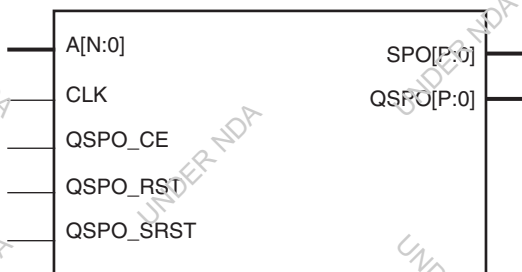
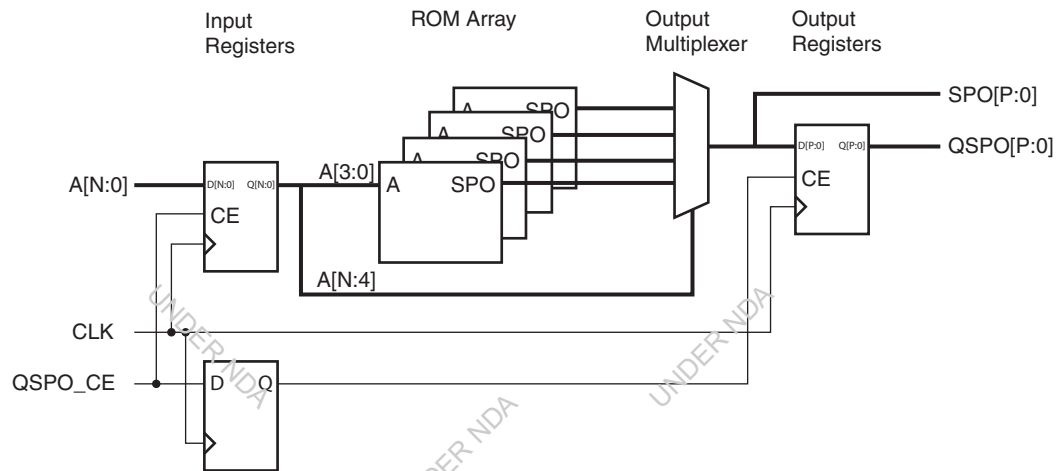

Figure 1: Distributed ROM Schematic Symbol
Figure 2: Distributed ROM Module Schematic
To create the distributed ROM, the core parses the initialization data provided by the user-supplied COE file. From that data, any necessary logic or optional registering is inferred and created. Figure 1 shows the distributed ROM schematic symbol, and Figure 2 illustrates one of the possible implementations of a distributed ROM core. For distributed ROM timing information, see the user guide for the specific platform-related architecture.
- **ROM.** Figure 2 illustrates a schematic of the structure of the ROM modules. The address register is optional (controlled by the setting of the Input Options parameter). Output registering is also optional (controlled by the setting of the Output Options parameter). Note that the clock is not required when these registers are not present. The resets and clock enables are optional.